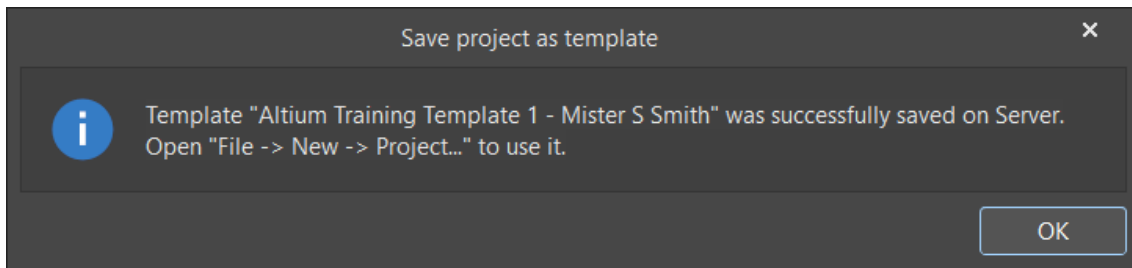

Figure 6. Save Project as template dialog
19. After the project was uploaded to the workspace, you can see a *Save Project as template* dialog, Figure 6. Select **OK** to continue.